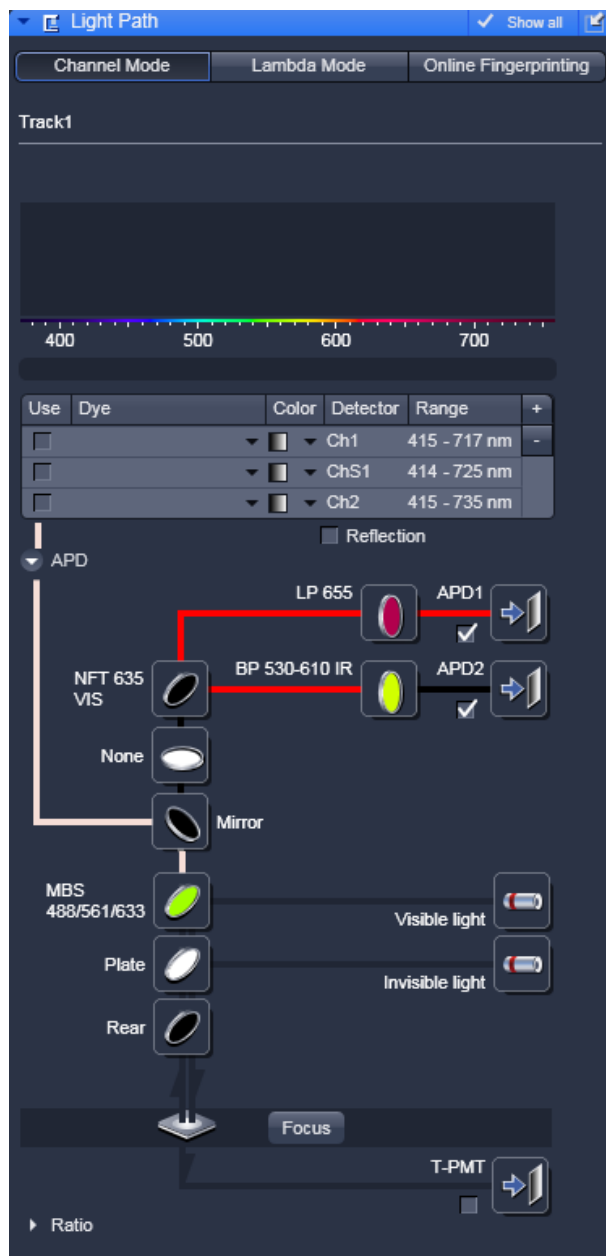

Fig. 9-121 Light Path - Acquisition
- Open in the LSM **Setup Manager** tool group the **Light Path** tool and choose the register **Acquisition** (Fig. 9-121). You have access to the ConfoCor beam path only in the **Show all** mode.